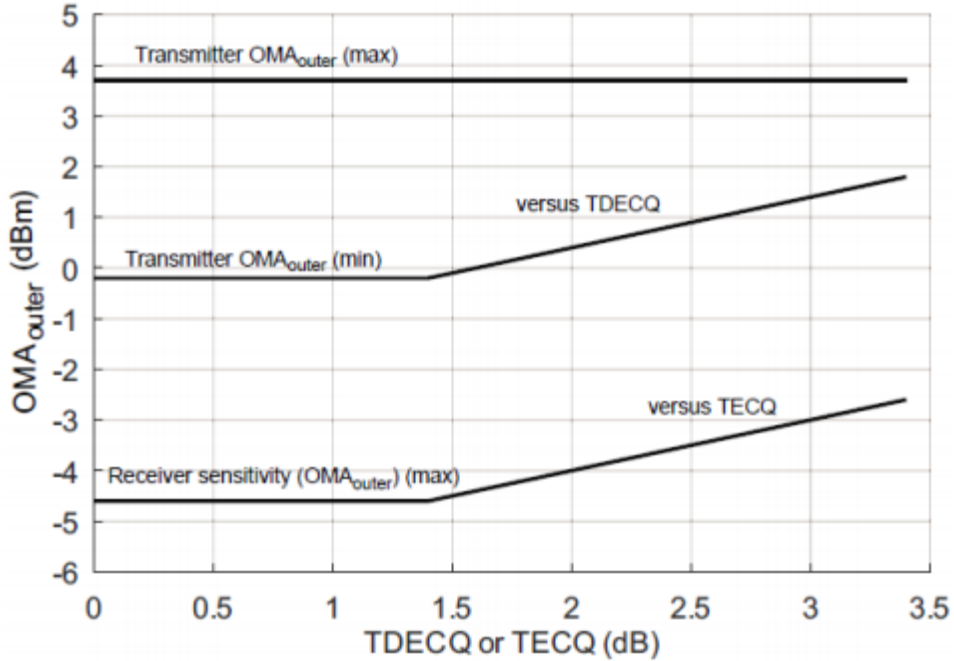

Figure 5. Illustration of Transmitter OMA_{outer} and Receiver Sensitivity Mask for 2x400G-FR4
2. The values for OMA_{outer} each lane (min) vary with TDECQ. The relationships are illustrated in Figure 5 along with the values for OMA_{outer} each lane (max).
5. Receiver sensitivity (OMA_{outer}) is informative and is defined for a transmitter with a value of TECQ up to 3.4 dB. Receiver sensitivity should meet Equation (1), which is illustrated in Figure 5.